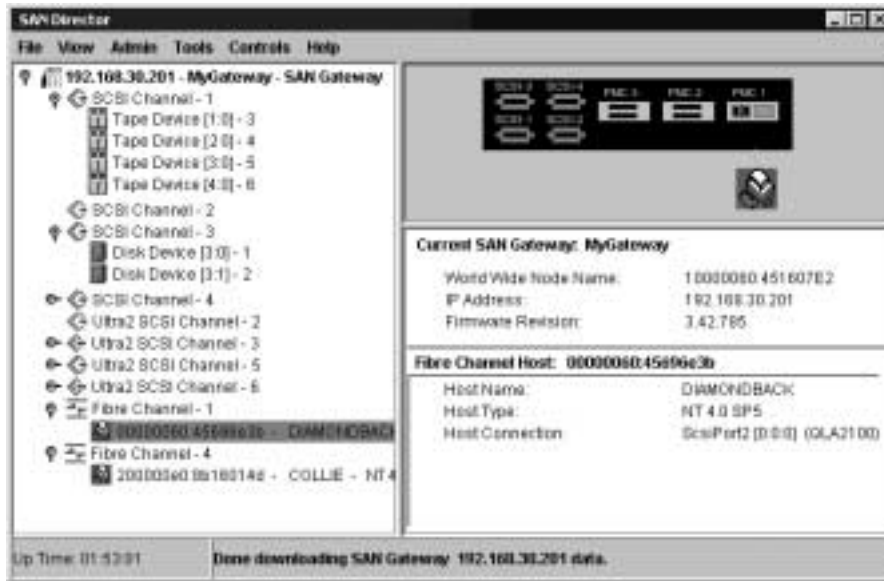

Figure 6-3: Confirming That Two Registered Hosts are Online
10. Repeat steps 8 and 9 until all hosts are displayed. Figure 6-3 is an example that shows how two registered hosts are displayed.